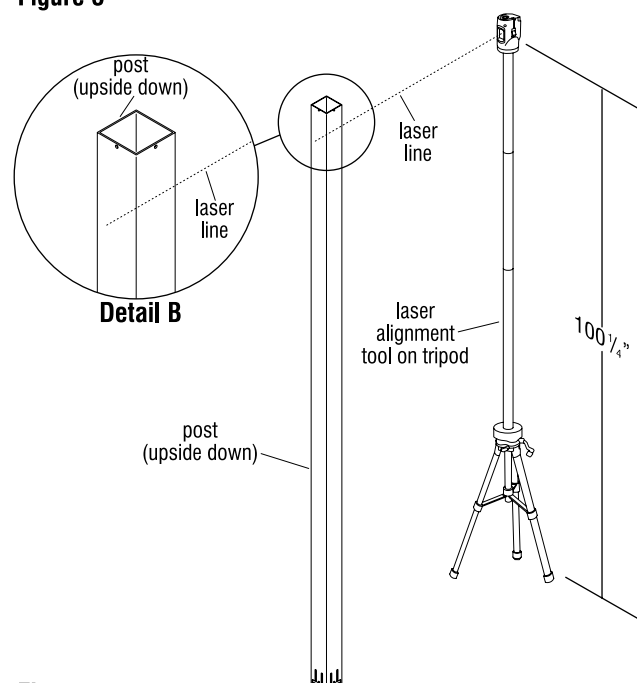

Figure 4
5. Reference the shop print to determine the correct location for the posts to be positioned at the specific layout marks on the floor, for cutting to the correct height. With a laser alignment tool on a tripod and in proper position for use, turn up one post at a time to be upside-down and perfectly plumb as illustrated, and centered directly over the marked location on the floor (Figure 4 & Detail B).
6. Holding the post exactly centered on the mark for future post location, on the floor and upside down (top-of-post notches face down), use a level to make sure the post is plumb. Assume the laser level is set at 1001/4" off the floor in the doorway and mark the location where the laser line hits the bottom of the post (Figure 4 & Detail B).